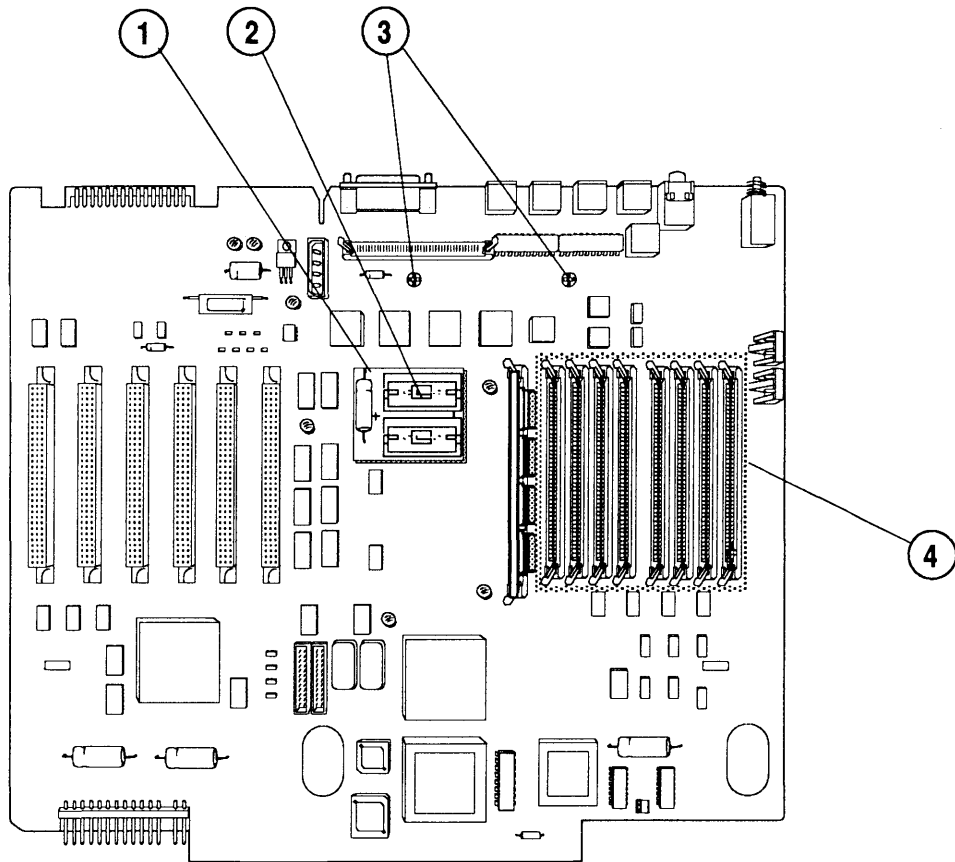

FIGURE 3
- IPL.7 Macintosh IIx – Logic Board (Figure 3)
□ **MACINTOSH IIx – LOGIC BOARD (Figure 3)**